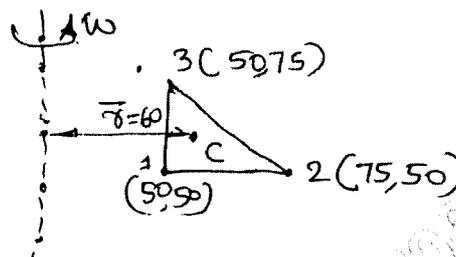

Fig.Q9(b)
- b. For the element of an axisymmetric body rotating with constant angular velocity  $\omega = 1000 \text{ rev/min}$  as shown in Fig.Q9(b). Determine the body force vector including weight of material with specific density is  $7850 \text{ kg/m}^3$ . (08 Marks)